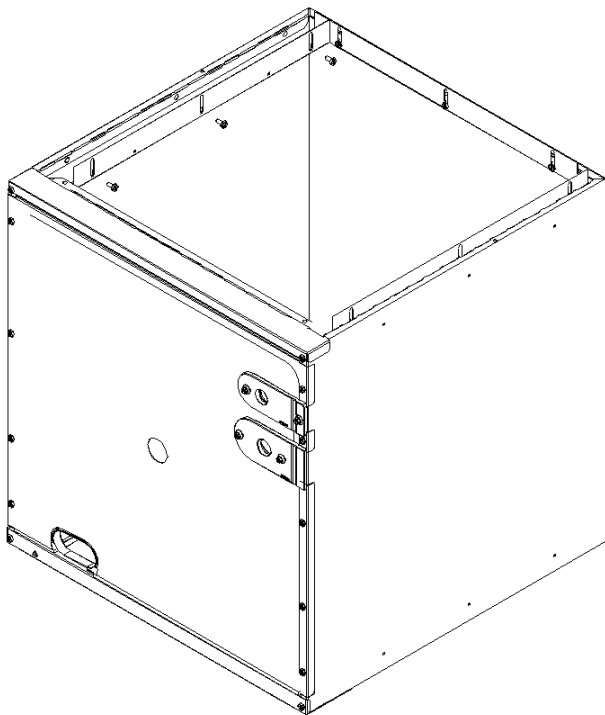

Figure 7
2. A duct flange kit can also be purchased from your distributor. (See Figure 7)